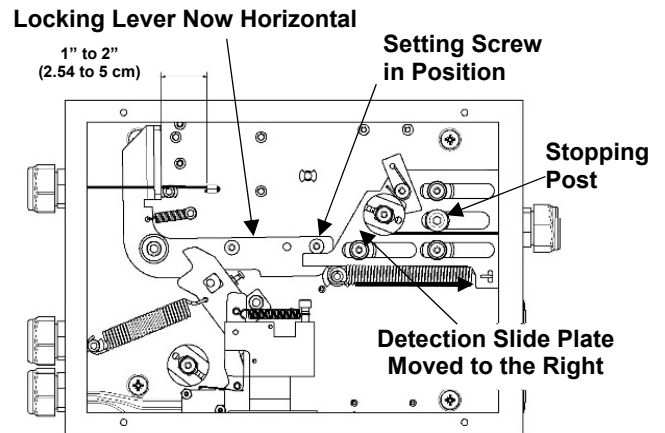

Figure 4-35.
- As you continue to rotate the Fusible Link Line Ratchet, the Detection Slide Plate will begin to move to the right, toward the Stopping Post. As the Detection Slide Plate moves to the right, the Locking Lever will fall into place. See Figure 4-35.